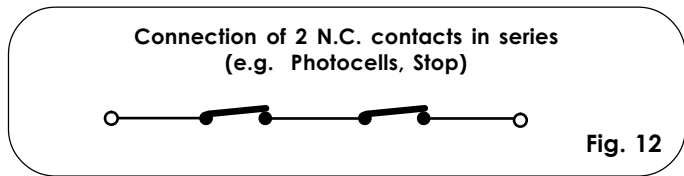

Fig. 12
N.B. If two or more devices have the same function (opening or closing), they should be connected to each other in series (see fig. 12). N.C. contacts must be used.
To install several STOP devices, connect the N.C. contacts in series (see fig. 12).